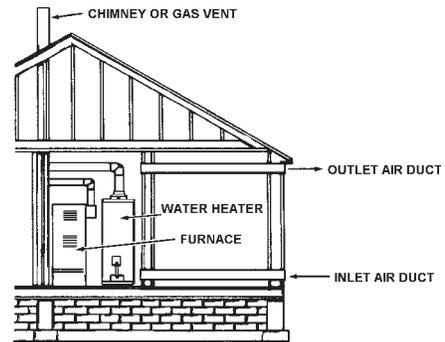

FIGURE 9.
- When communicating with the outdoors through horizontal ducts, each opening shall have a minimum free area of 1 square inch per 2,000 Btu per hour (11 cm2/kW) of total input rating of all equipment in the enclosure, see Figure 9.
- When ducts are used, they shall be of the same cross-sectional area as the free area of the openings to which they connect. The minimum short side dimension of rectangular air ducts shall not be less than 3 inches (76.2 mm), see Figure 9.